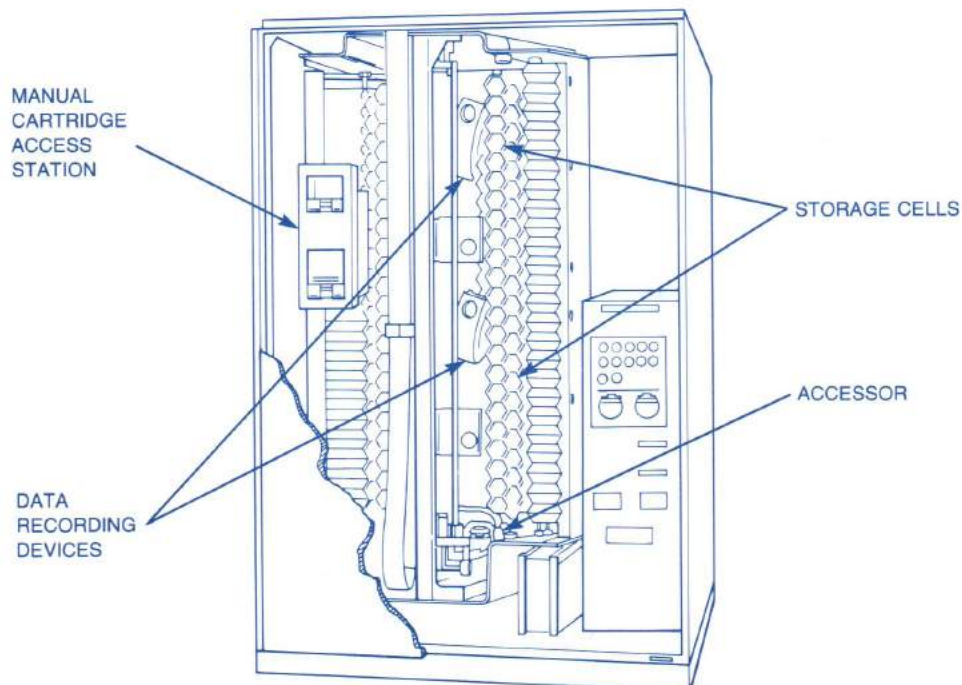

Figure 3: Major Components of the M861 Storage Module
together to provide the facilities of the M860 Storage Management System. They are (1) the Data Recording Complex, and (2) the Cartridge Store Complex. Figure 3 shows most of the major components of the M861 Storage Module.